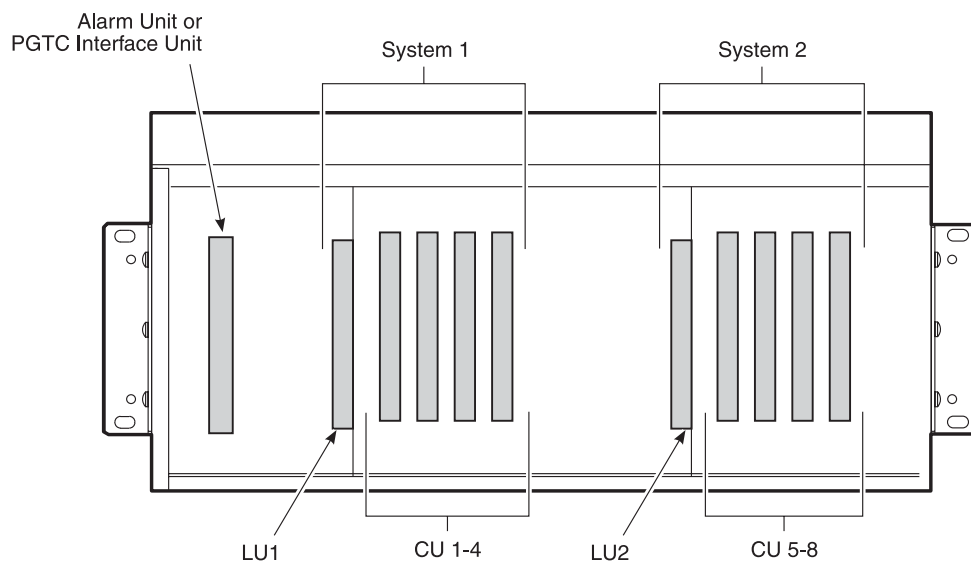

Figure 1. FCS-718 List 4B COT Shelf
The ADC® PG-Flex® FCS-718 List 4B 19-inch Central Office Terminal (COT) shelf supports (see Figure 1):
Each PG-Flex system (one line unit and from one to four channel units) shown in Figure 1 can support 24 or 32 subscriber channels. Each channel unit can provide four (4) or eight (8) channels, depending on the service offered. Services offered are:
Table 3 lists the FCS-718 List 4 COT shelf connectors and where each is described in this practice. (Refer to Figure 1 for connector locations.)